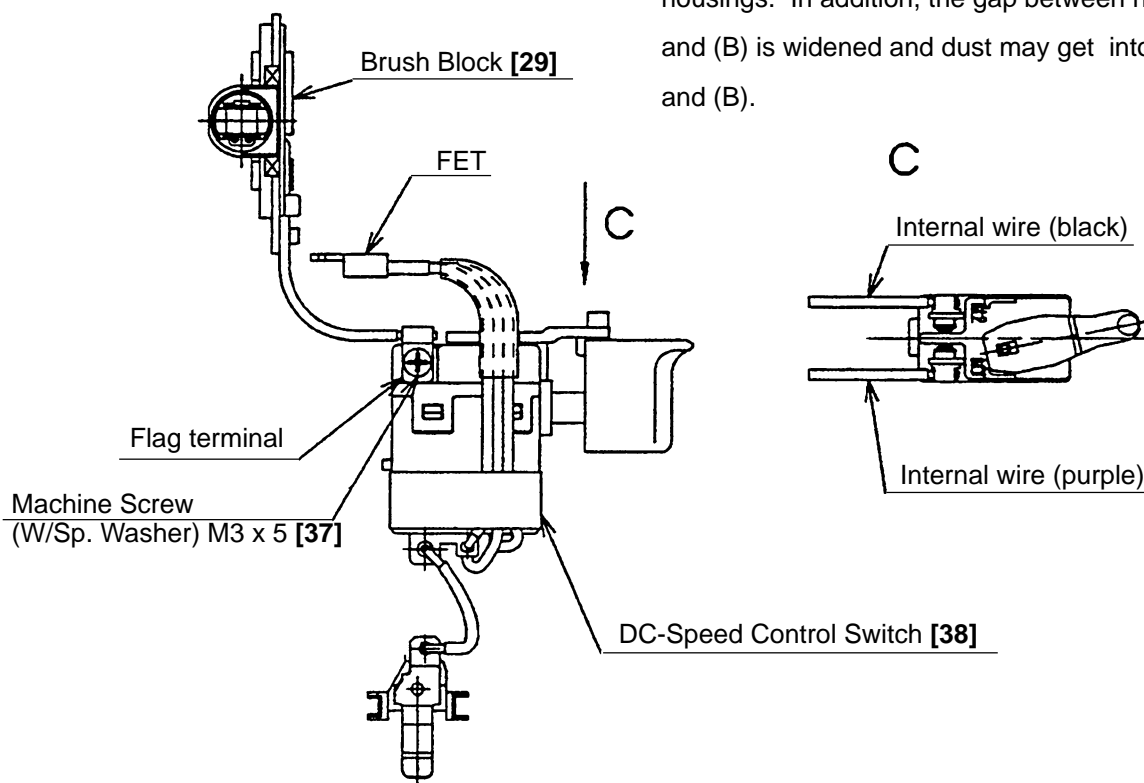

Fig. 10
(1) Reassembly of the housing assembly
- (a) Be sure to follow the wiring diagram (Fig. 10) for proper wiring.
- (b) When connecting the internal wires of the Brush Block [29] to the DC-Speed Control Switch [38], fasten them with the Machine Screws (W/Sp. Washer) M3 x 5 [37] paying attention to the direction of the flag terminal (Fig. 10).
**(Note)** If the flag terminal is mounted in wrong direction, the flag terminal may be damaged due to contact with the housings. In addition, the gap between housings (A) and (B) is widened and dust may get into housings (A) and (B).